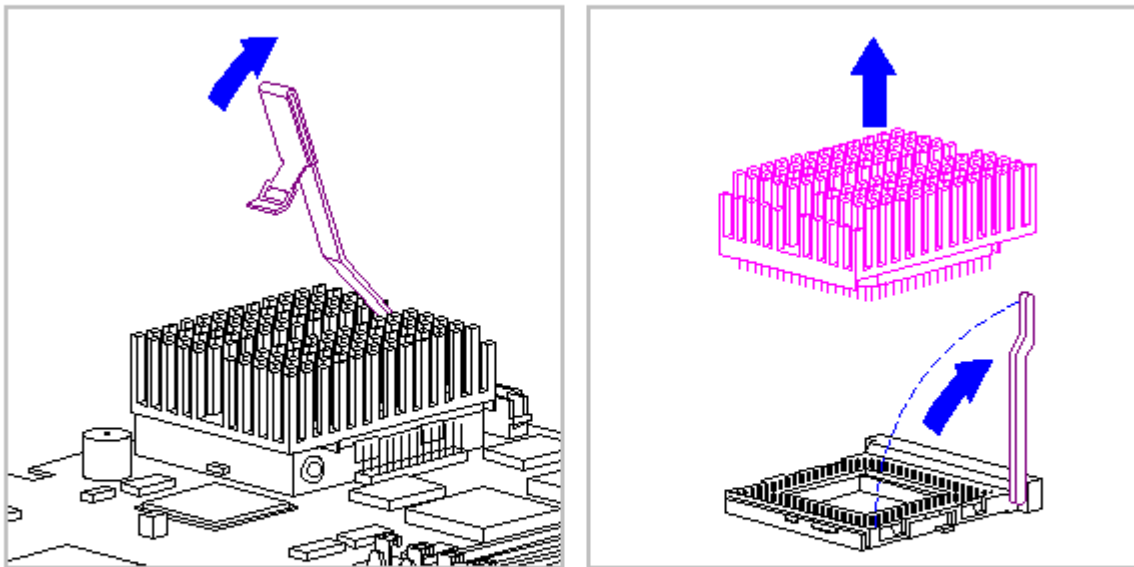
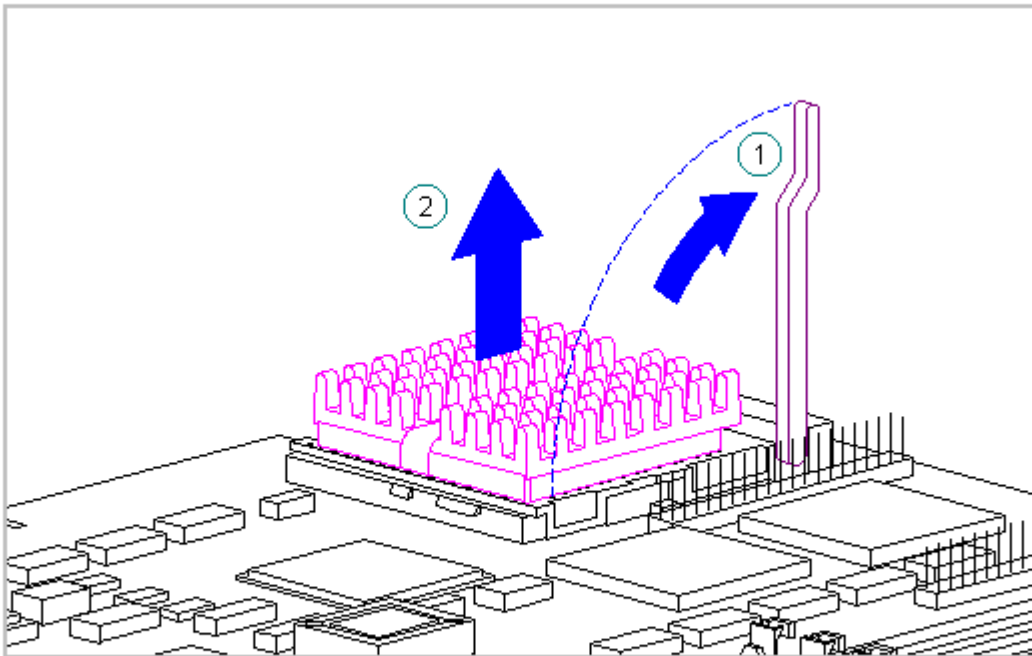

Figure 5-47. Removing a 586-Class Processor
Figure 5-48. Removing a 486 Processor
The processor for the computer is mounted in a ZIF socket on the system board as shown in Figure 5-47 and Figure 5-48.
4. Release the heat sink clip as shown in Figure 5-47 (586-based system boards only), remove the heat sink, and raise the eject lever to remove the processor.
5. On 486-based systems, simply raise the eject lever to remove the processor (Figure 5-48).
This procedure applies to 486-based system boards only. The secondary cache board is installed on the 486-based system board adjacent to the SIMM sockets (Figure 5-47). To remove the secondary cache board, complete the following steps: